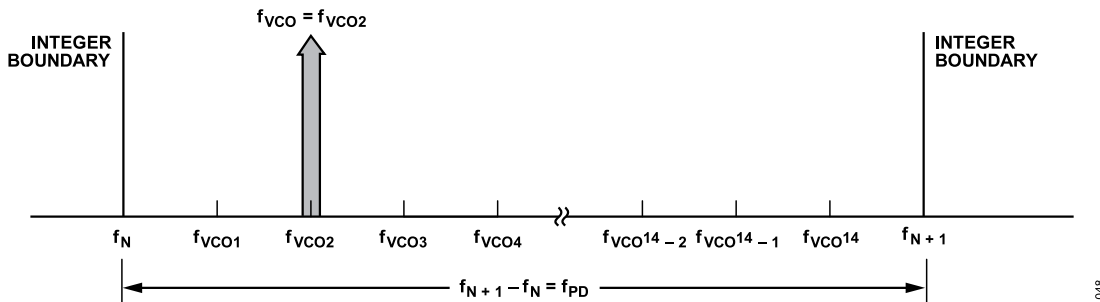

Figure 26. Exact Frequency Tuning
$f_{VCO}k$ is the channel step frequency, $0 < k < 2^{24} - 1$, as shown in Figure 26.
Some fractional PLLs are able to achieve these exact frequencies by shortening the length of the phase accumulator (the denominator or the modulus of the Δ - Σ modulator) so that the Δ - Σ modulator phase accumulator repeats at an exact period related to the interval frequency ($f_{VCO}k - f_{VCO}(k-1)$) in Figure 26. Consequently, the shortened accumulator results in more frequent repeating patterns
When multiple, equally spaced, exact frequency channels are needed that fall within the same interval (that is, $f_N \leq f_{VCOk} < f_{N+1}$) where f_{VCOk} is shown in Figure 26 and $1 \leq k \leq 2^{14}$, it is possible to maintain the same Integer N register (Register 0x03) and exact frequency register (Register 0x0C) settings and only update the fractional register (Register 0x04) setting. The exact frequency channel mode is possible when Equation 16 is satisfied for at least two equally spaced adjacent frequency channels, that is, the channel step size.
To configure the ADF5610 for exact frequency channel mode, initially and only at the beginning, the Integer N register (Register 0x03) and exact frequency register (Register 0x0C) must be programmed for the smallest f_{VCO} frequency (f_{VCO1} in Figure 26). Calculate and program the integer register setting by
where f_{VCO1} is shown in Figure 26 and corresponds to the minimum channel VCO frequency. Then, the lower integer boundary frequency is given by $f_N = N_{INT} \times f_{PD}$.
f_{VCO1} , as shown in Figure 26, represents the smallest channel VCO frequency that is greater than f_N .
- To change from Channel 1 ($f_{VCO1} = 2800.2$ MHz) to Channel 2 ($f_{VCO2} = 2800.3$ MHz), only Register 0x04 must be programmed, as long as all of the desired exact frequencies (f_{VCOk} , see Figure 26) fall between the same Integer N boundaries ($f_N < f_{VCOk} < f_{N+1}$). In that case,